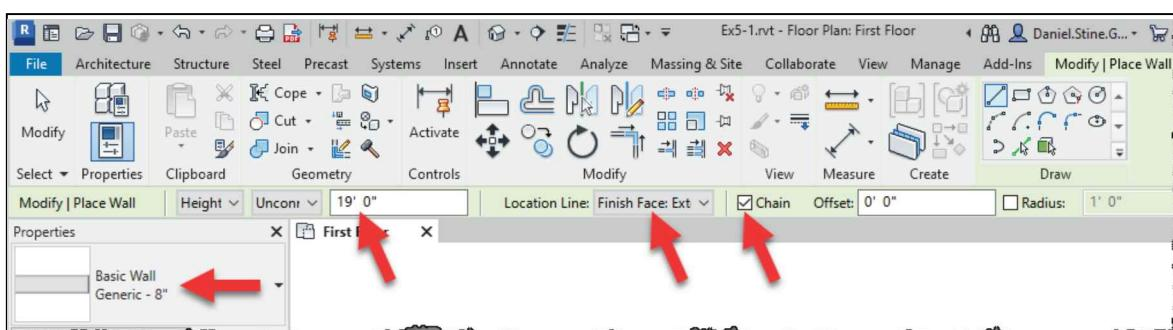

FIGURE 5-2.1 Ribbon and Option bar – Wall command active
2. Make the following changes to the wall options within the *Ribbon*, *Options Bar* and *Properties Palette* (Figure 5-2.1):